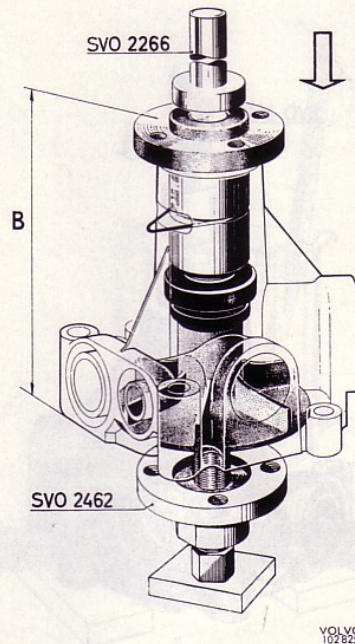

Fig 117. Fitting the pulley
4. Turn the pump. Place a counterhold under the shaft end in the hold of the impeller and press on the hub with drift SVO 2266. As a counterhold, use for example puller SVO 2462 with the centre screw screwed in so that it supports against the shaft. Carefully press so far that dimension B in Fig. 117. will be 105 ± 0.2 mm (4.134 ± 0.008 ").